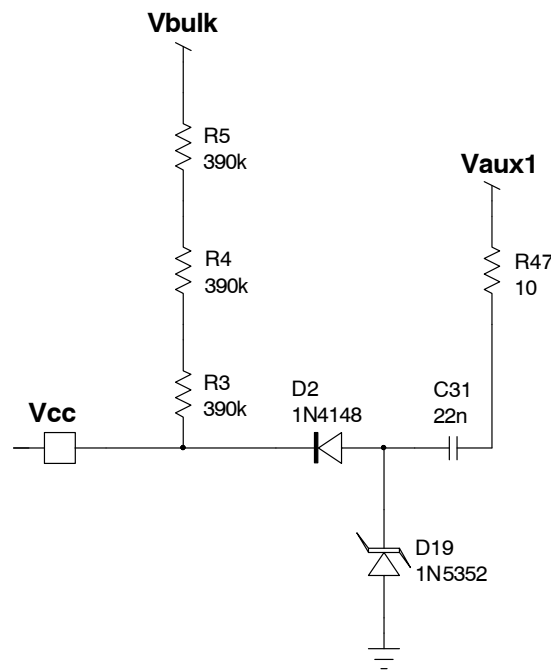

Figure 1. Optional Startup Circuit
However, the NCP1631 has a very low startup current (below 100 μ A), so the Integrated Circuit (IC) can be powered using startup resistors connected to the bulk rail and an auto-supply circuit. Thus, on the demonstration board, there is also an optional charge-pump circuit formed by R47, C31, D2 and D19 and optional startup resistors (R5, R4, R3). These circuits are not connected, but if needed, the values of the component that should be used are shown on Figure 1.